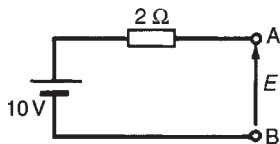

Figure 15.29
- (i) The open-circuit voltage, E , across terminals AB in Fig. 15.29 is equal to 10 V, since no current flows through the 2Ω resistor and hence no voltage drop occurs.